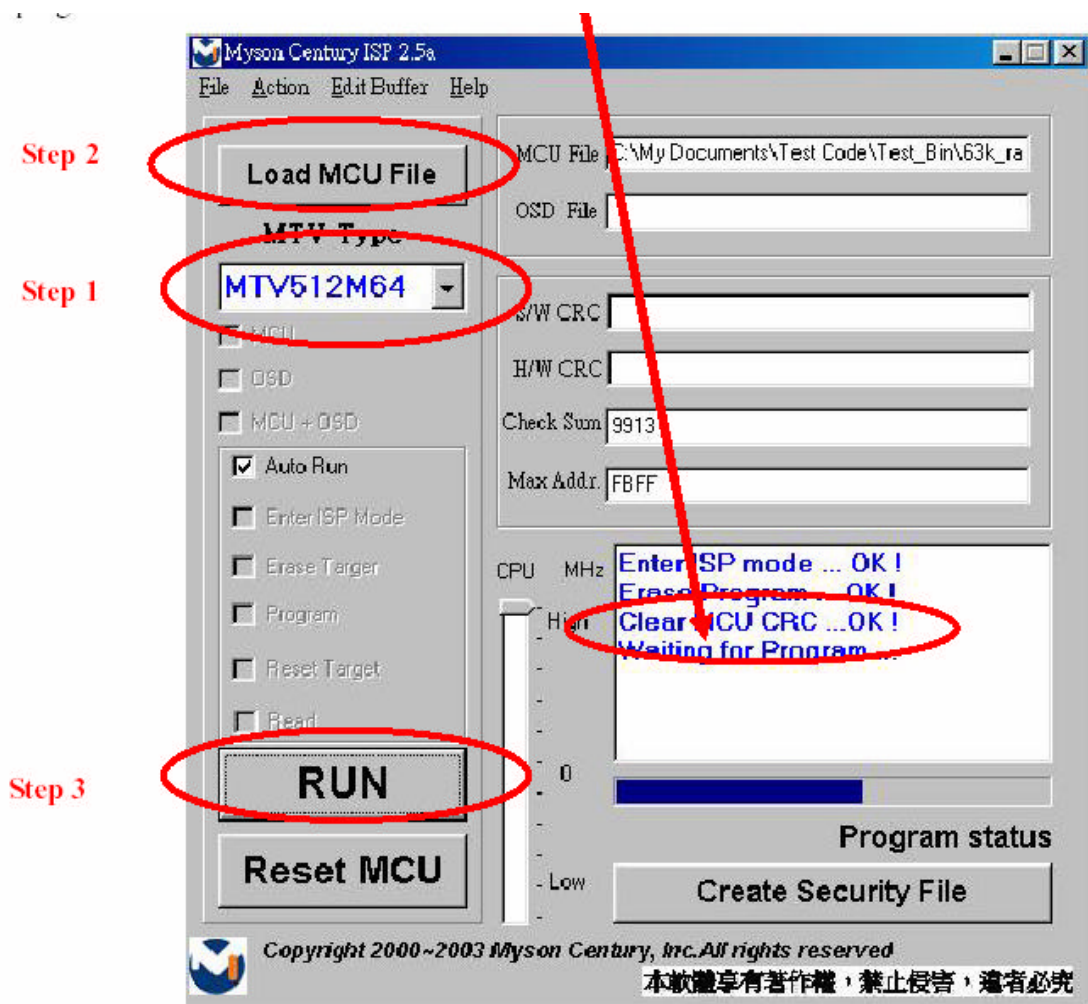

Fig 3.1
- 3.1 Select MTV type first , load the binary or intel hex file that you want to program into the MCU , and select “ AUTO” item , then press “ RUN “ button , see fig3.1